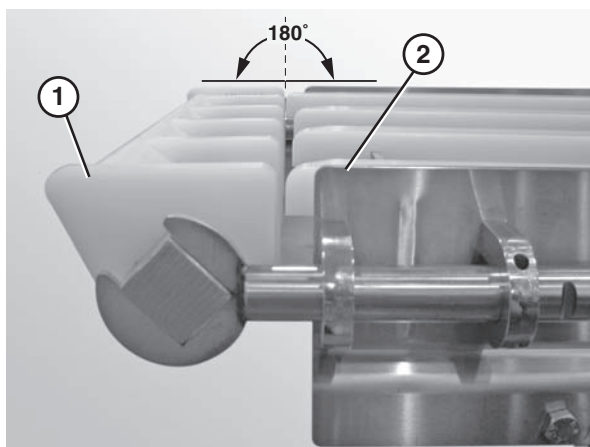

Figure 18
3. Ensure that the nose bar pucks (**Figure 18, item 1**) are in line with the conveyor frame (**Figure 18, item 2**).